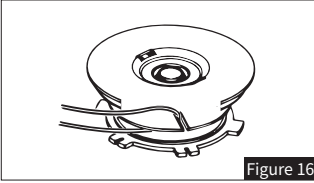

Figure 16
- Place the line spool on the tapered spring, and guide both lines through the round metal eyelets on the line spool housing (see Figure 16).